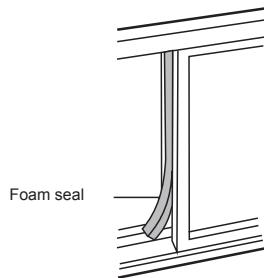

Fig. 17
5. Cut the foam seal to an appropriate length and seal the open gap between the top window sash and outer window sash. Shown as in Fig.17.